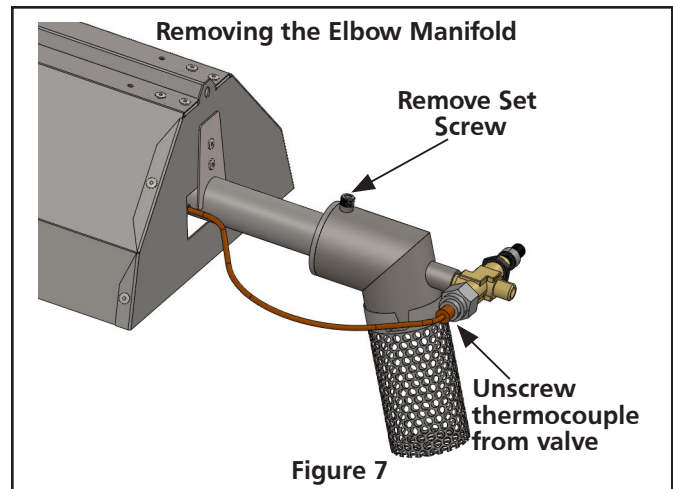

Figure 7
1. Remove the following (Refer to Figure 7):